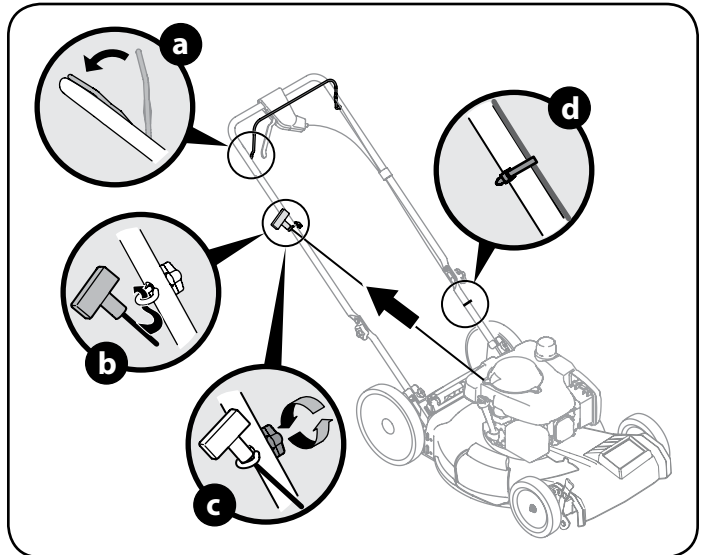

Figure 8
- The rope guide is attached to the right side of the upper handle. Loosen the wing knob which secures the rope guide. Refer to Figure 8.
- Slowly pull starter rope handle from engine and slip starter rope into the rope guide. See Figure 8.
- Use cable ties provided to secure blade control and drive cables to lower handle as shown in Figure 8.